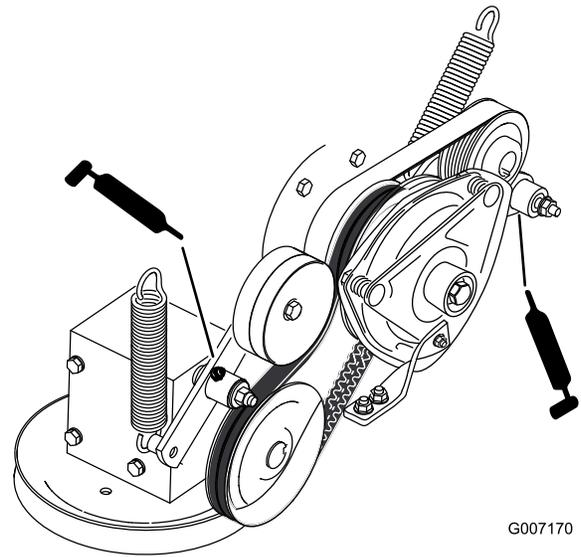

Figure 38
7. Grease the PTO drive belt idler arm (Figure 38).
8. Grease the pump belt idler arm (Figure 38).